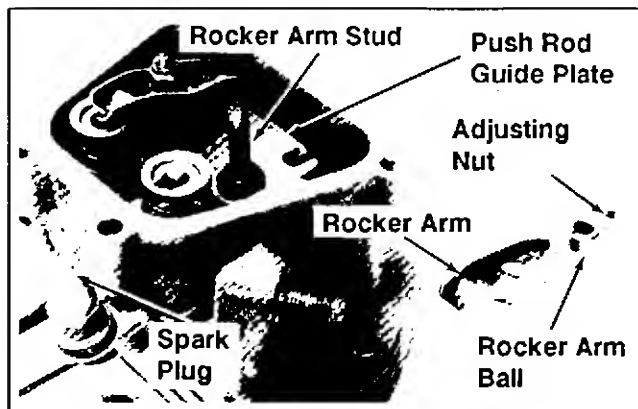

Figure 9-17. Removing Spark Plug And Rocker Arms.
1. Remove the spark plug. See Figure 9-17.